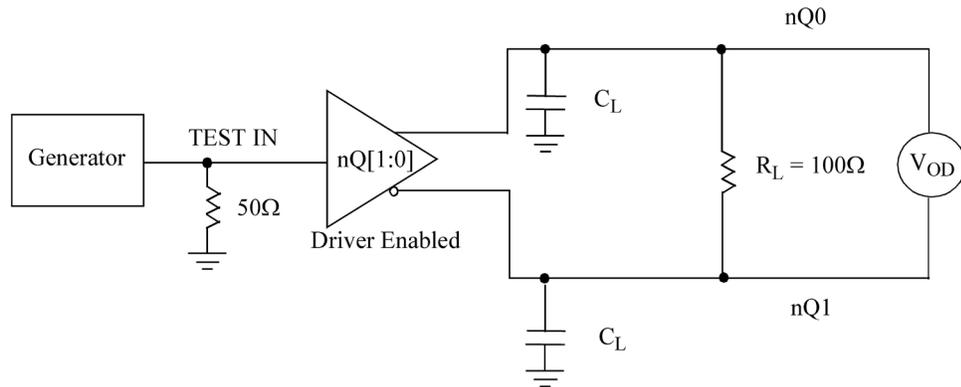

Figure 9. LVDS Driver V_{OD} and V_{OS} Test Circuit or Equivalent
- 1) All outputs are equally loaded. See figure 9.
- 3) When measuring, use Figure 9.